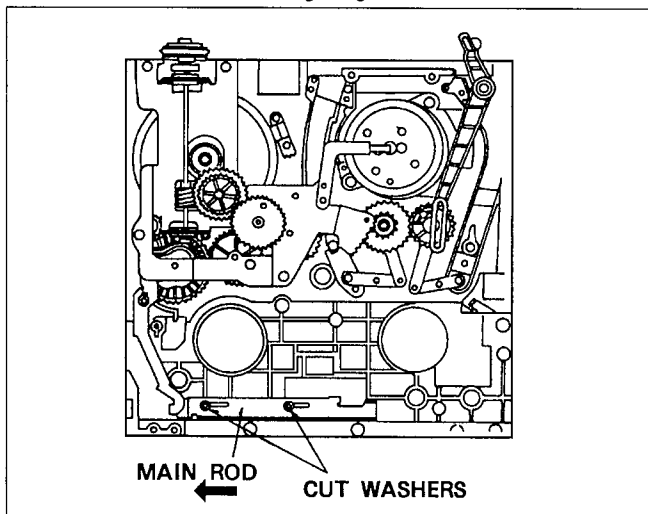

Figure M44
1. Install the Main Rod and then insert the cut washers as shown in Figure M44.